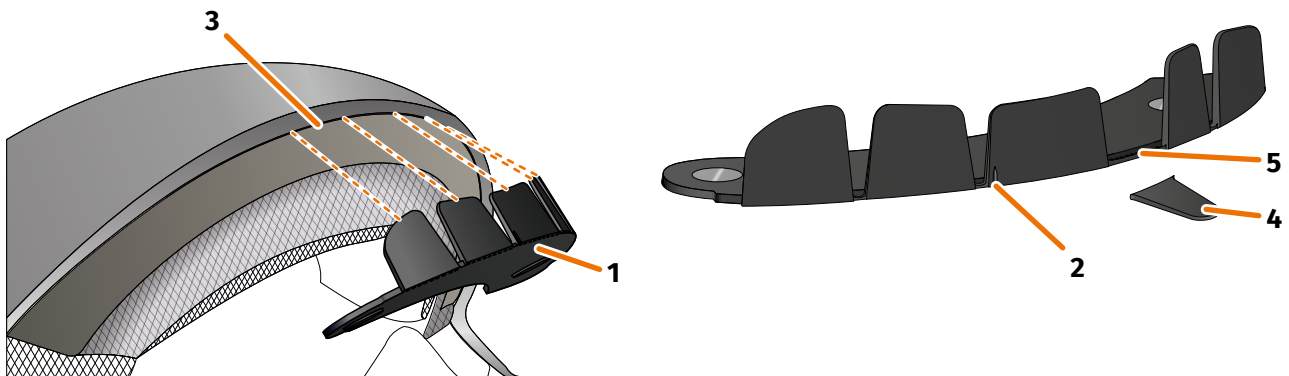

FIGURE 9 // Clamping in the helmet adapter with tabs
1. Place the helmet adapter (FIGURE 9/1) in the forehead section of the helmet. At the front of the helmet adapter, there is a mark (FIGURE 9/2) that should be placed on an imaginary line between the middle of your helmet and the middle of your face.
2. Use both hands to evenly push the tabs into the gap (FIGURE 9/3), until the base plate of the helmet adapter is flush on the mounting surface of the helmet. For some helmets, the gap needs to be pulled open a bit first.
If you notice that individual tabs collide with the helmet material in the gap in the helmet, you can simply break off up to three tabs (FIGURE 9/4, for example). The helmet adapter is perforated at the lower edge of the tabs (FIGURE 9/5) to facilitate break off. You may use a file or scissors to smoothen the breaking points a little.